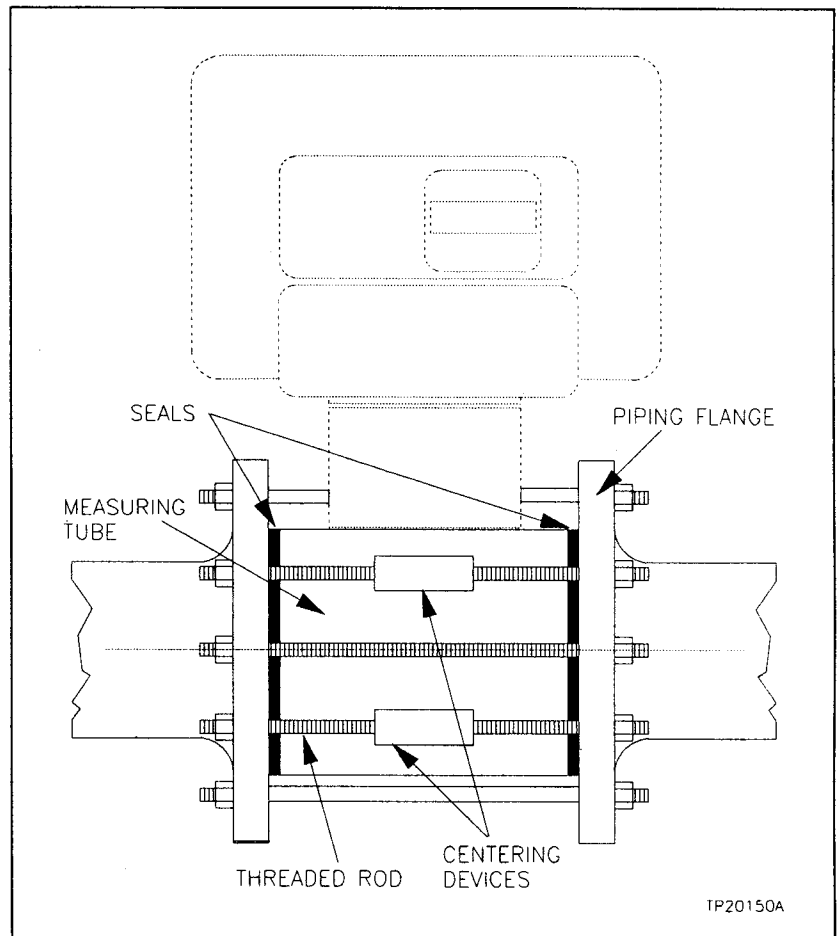

Figure 3-11. Type MW Flowmeter Installation
3. Progressively torque two diametrically opposite bolts, moving around in 90 degree steps until tightening the last bolt. See Figure 3-11 for an illustration of Type MW flowmeter installation.